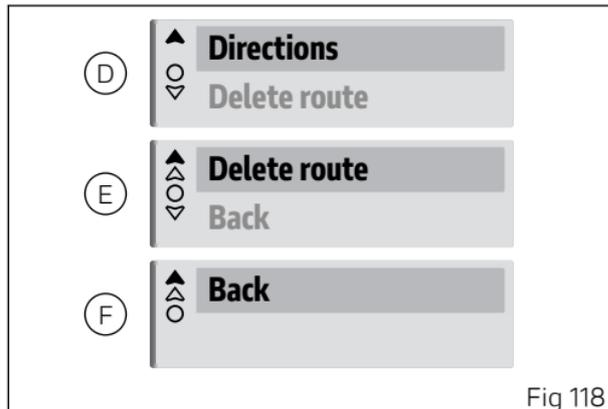

Fig 118
- Select the "Directions" item (D, Fig 118) and press ENTER (3).
- Select the "Delete route" item (E, Fig 118) and press ENTER (3).